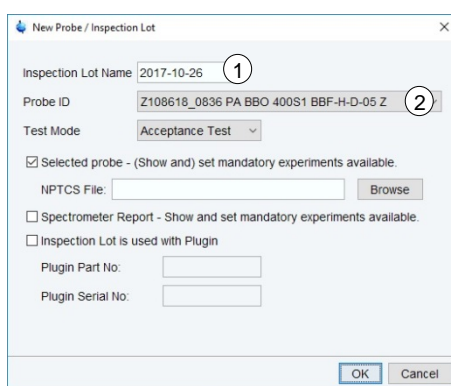

Figure 3-5: Basic settings for a new Inspection Lot
- Enter an **Inspection Lot Name** (Figure 3-5 (1)) and select the **Probe ID** from the list (Figure 3-5 (2)). Keep the default settings of further options. Click **OK** to apply and continue.